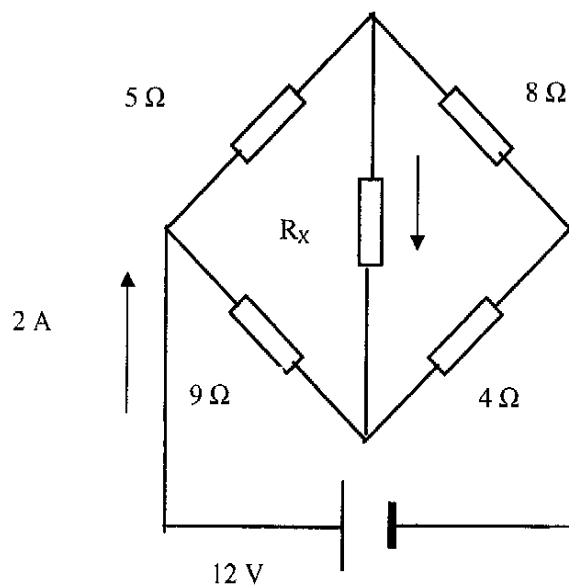

Fig Q1
1. For the network shown in Fig Q1, calculate EACH of the following:
- (a) the value of  $R_X$  so that the total current drawn from the 12 V supply shall be 2 A as shown; (8)
- (b) the potential difference across  $R_X$ ; (3)
- (c) the value to which the  $5\ \Omega$  resistor must be changed to give zero potential difference across  $R_X$ . (5)